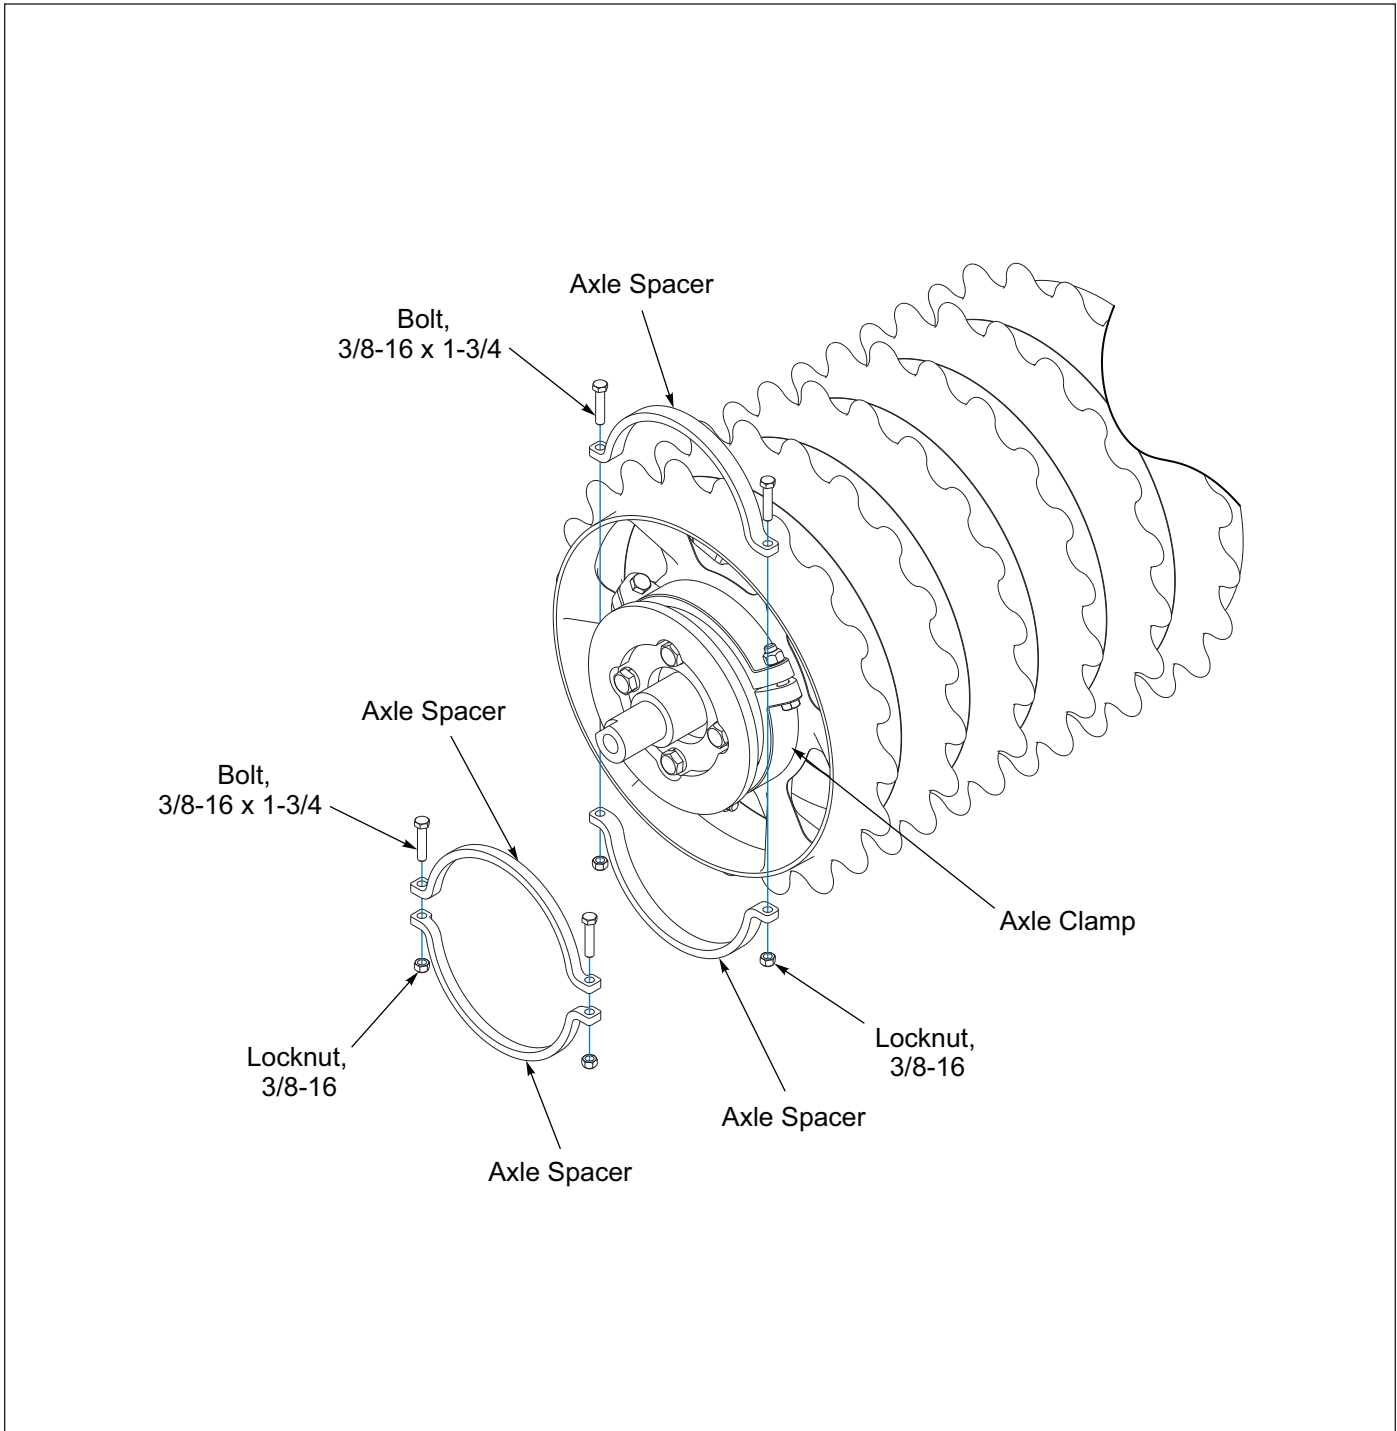

Figure 2-64: Roller Clamp Spacer Installation
3. If there is a gap between the Axle Clamp and the Wheel Stop, install the appropriate Clamp Spacer with 3/8-16 x 1-3/4 Bolt and Locknut. **See Figure 2-64.**